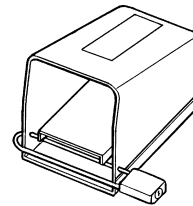

Figure 1 – Locked Foot Switch
8. **Lock foot switch when not in use.** (See Figure 1.) Avoids accidental starting.